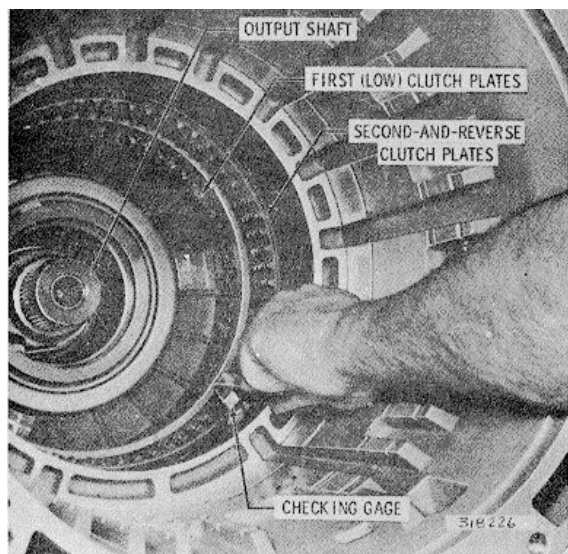

Fig. 7-11. Checking first clutch clearance
(7) Using gage 44 (Fig. 4-3), check the clearance between the first clutch plates (Fig. 7-11). It is recommended the gage be placed between the transmission housing and the first steel plate. The prescribed running clearance is 0.095 to 0.145 inch (2.41